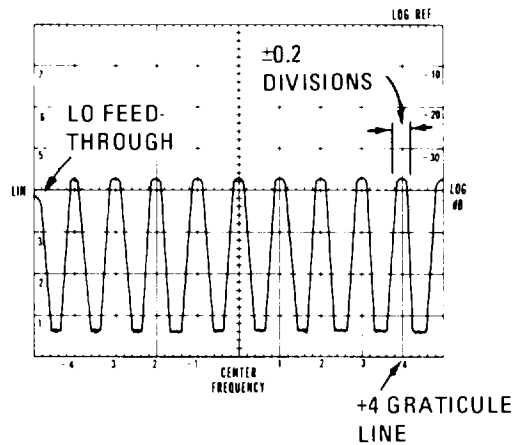

Figure 5-7. 47 MHz LO Adjustment Display
6. Using non-metallic tuning tool, slowly adjust 8552A A3A2C4 (see Assembly and Adjustment Locations photo in 8552A manual) until the LO feedthrough appears on the CRT (about ± 1 .turn); then adjust 8552A A3A2C4 until LO feedthrough is centered on far left graticule line (see Figure 5-7).